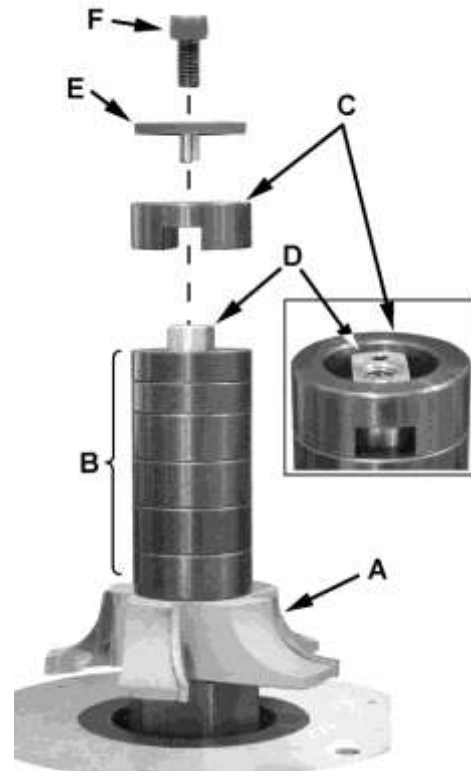

Fig. 13
Referring to Figure 13:
4. Pull out the spindle lock (F) accessible through the door on the right side of the cabinet. Rotate 90° right or left, resetting the knob into the indent (Fig. 13).
To change speed (refer to Figure 13):